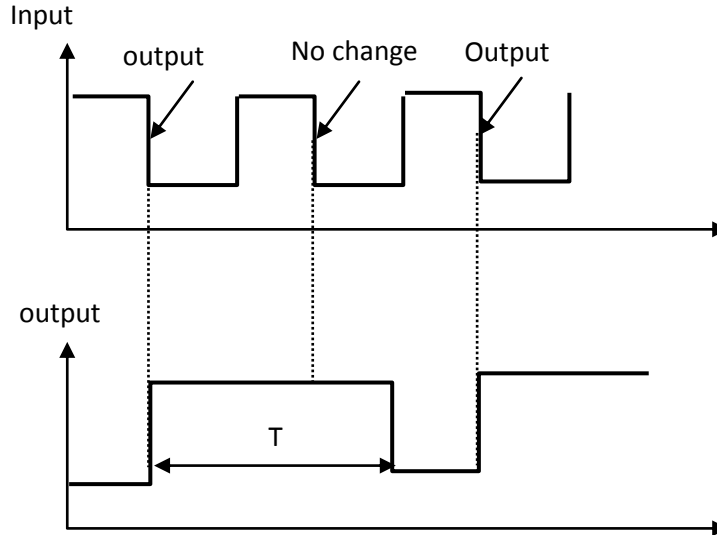

Fig 6 Input and output waveform of frequency division
- The monostable multivibrator will be triggered by the first negative going edge of the square wave input as shown in Fig 6 but the output will remain HIGH (because of greater timing interval) for next negative going edge of the input square wave as shown in Fig. 10.